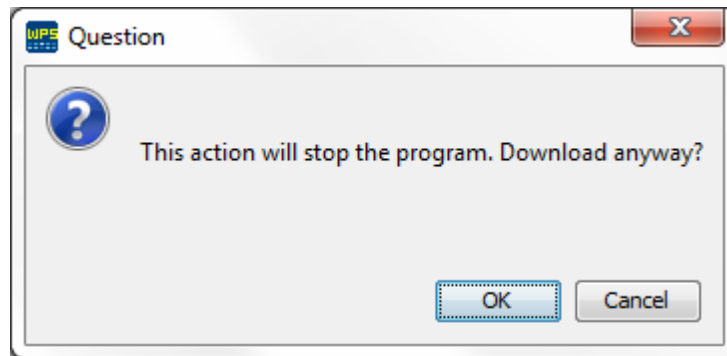
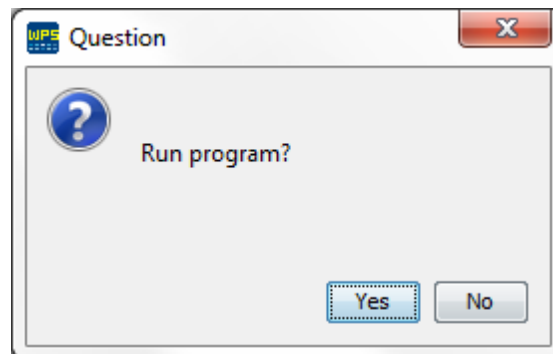

Figure 2: Warning window informing that the program will be stopped
Figure 3: Prompting window asking if you wish to run the program
- **Stop/Run the program automatically:** Disables the warning windows informing that the program will be stopped (Figure 2) and the prompting window asking if you wish to execute the program (Figure 3).